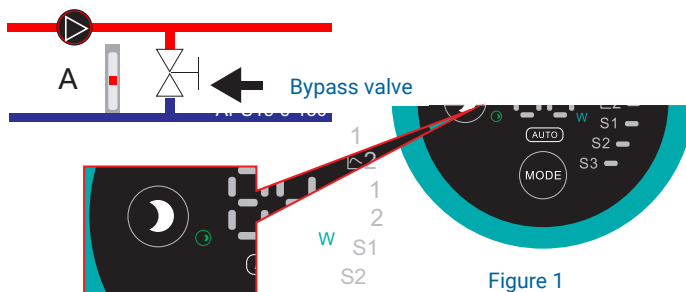

Figure 1
1. When installing the pump in the pipeline, you must install the two sealing gaskets provided (as shown in figure 1).
- Loosen and remove four hex. Bolts securing the pump head (Figure 1).
- 4.1.1 When adjusting the bypass valve, make sure that the pump is set to speed mode I. (Figure 1). You must maintain the minimum flow ($Q_{min.}$) of the system at all times. Refer to the bypass manufacturer's instructions.